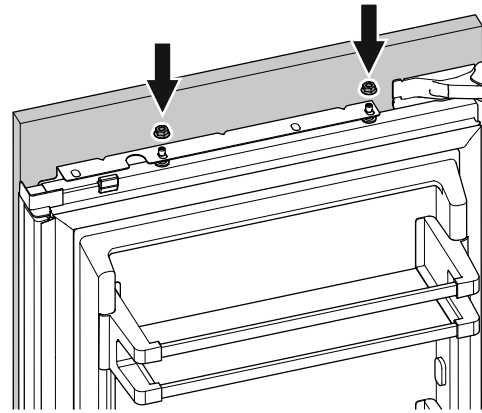

Figure 24
- Figures 24 - 33
1. Open the refrigerator door and hang the panel on the adjusting bolts (**Figure 24**).
2. Screw on the hex nuts to the adjusting bolts and finger tighten temporarily (**Figure 24**).